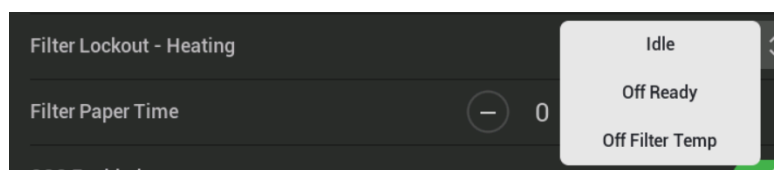

Figure 210 - Filter Lockout - Heating
**Filter Heat Lockout** options can be selected in this menu. **Filter Heat Lockout** is available in three (3) different modes.
4. Choose desired lockout **Figure 210.**